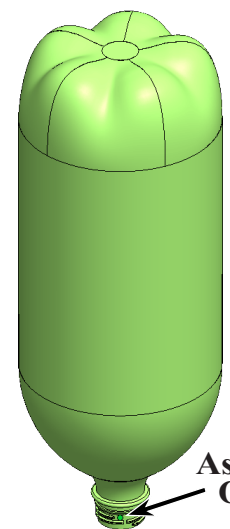
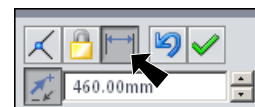

Fig. 13
Fig. 12
Step 6. Click **Distance**  in Mate pop-up, **Fig. 12**. Set **distance 460** and press ENTER. The Ball should be positioned above Bottle, **Fig. 13**. If positioned in opposite direction, click **Flip Dimension**  in the Mate pop-up, **Fig. 12**. Click Add/Finish Mate  to add Distance mate.
Step 8. Click **Zoom to Fit**  (F) on the View toolbar.